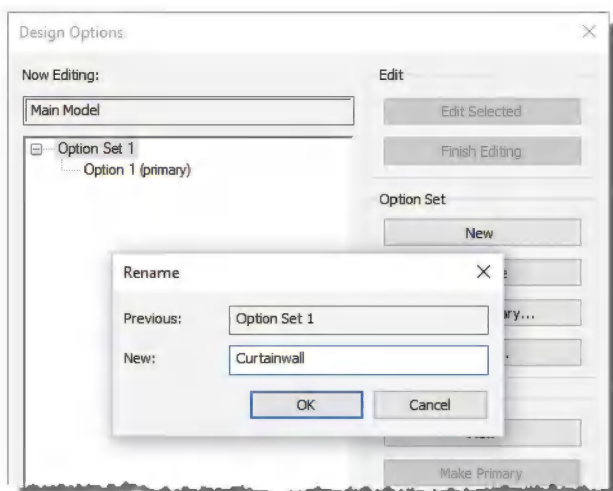

FIGURE 8-6.4 Rename Option Set Dialog; enter Curtainwall
5. In the *Rename* dialog type **Curtainwall** (Figure 8-6.4).